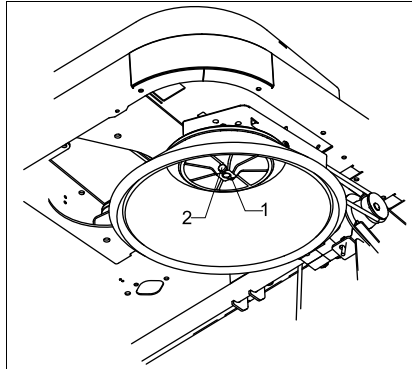

Fig.16 Replace side brush
- Loosen hexagonal nut (Fig. 16/1) und remove together with washer
- Remove bolt (Fig. 16/2)